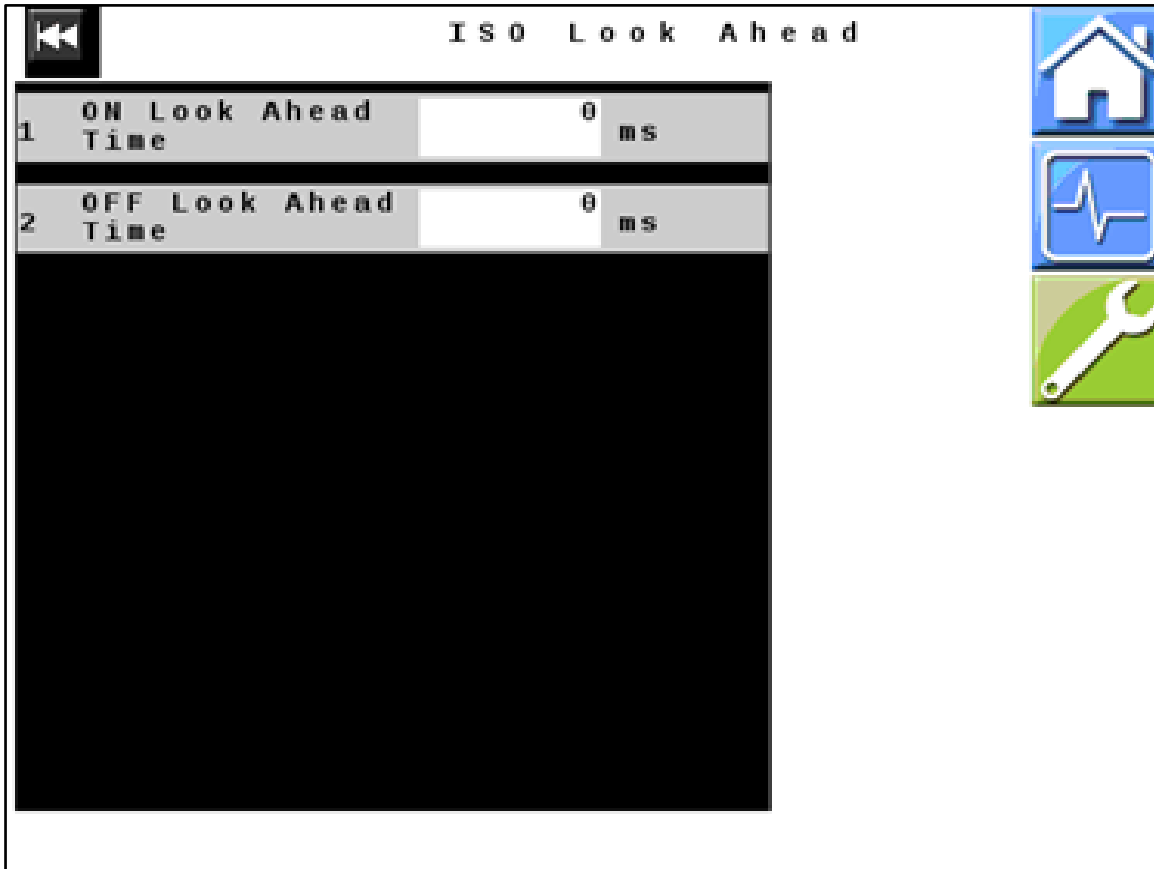

Figure 21 — ISO Look Ahead
37. *Figure 21:* Verify that all values displayed on your unit match those shown here. Change values if necessary.